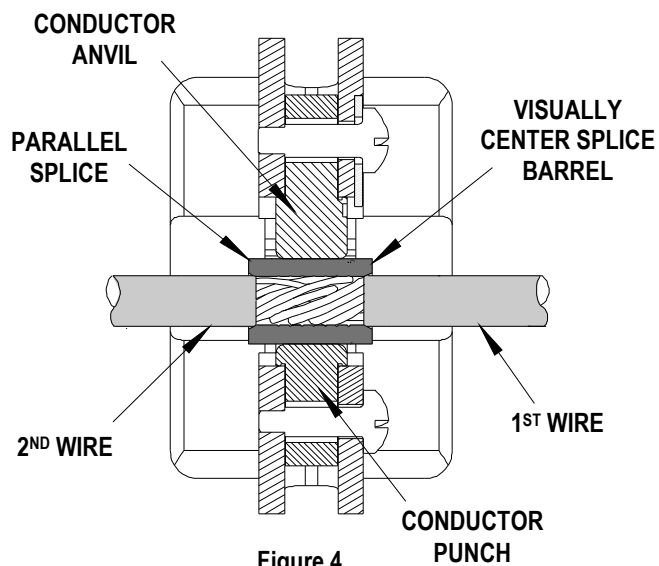

Figure 4
- When crimping parallel splices insert the first wire into one end of splice then insert the second wire into the opposite end of the parallel splice. This procedure will crimp both wires at the same time. Make sure the wires are fully seated into the parallel splice. Position the splice and the wires in the nest with conductor crimp on the conductor barrel of the splice The splice should be approximately centered inside the tooling nests. See Figure 4. Cycle the tool.